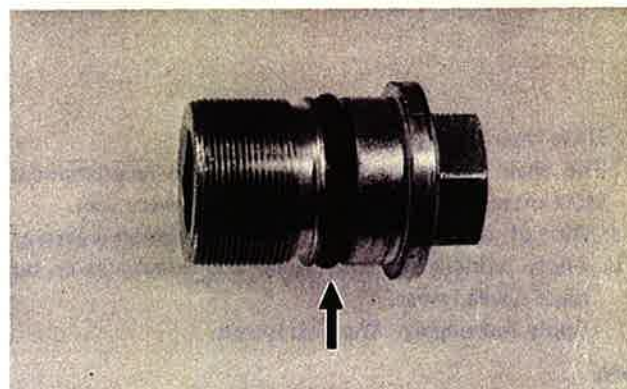

Fig. 2-4-12
8. Inspect O-ring on fork cap bolts and replace if damaged. (Fig. 2-4-12)